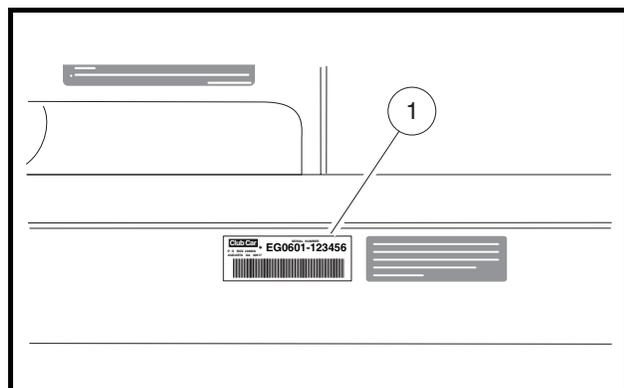

Figure 5 Serial Number Decal
The serial number of the vehicle is printed on a bar code decal (1) mounted on the frame directly above the accelerator pedal (Example: EG0601-123456) (**Figure 5**). There is also a second serial number decal mounted on the front body frame behind the center dash panel. The center dash panel must be removed to view this decal. **See following NOTE.**